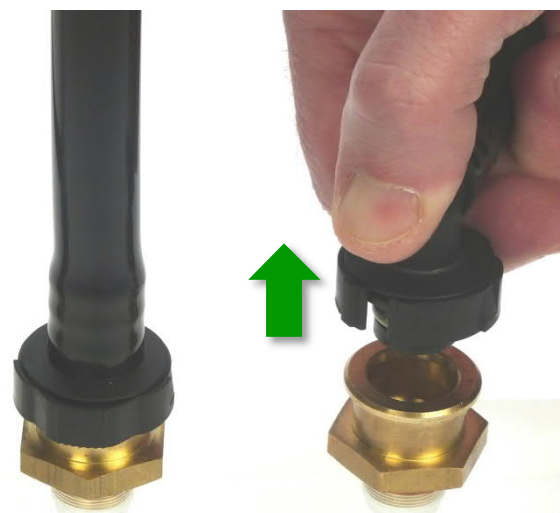

Fig. 33
- ⚠ Depending on the type of material combination with the connecting port, torsional vibration (see fig. 33) can result in failure of the connection. Such load conditions must be avoided.